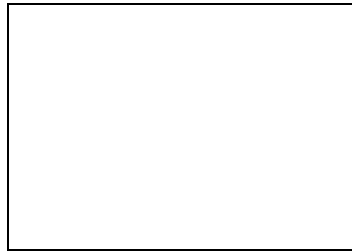

Figure 30. Delete Message
10. From the **Options** menu, choose **Delete Message**. The *Delete Message* pop-up is displayed, as shown in *Figure 30*.